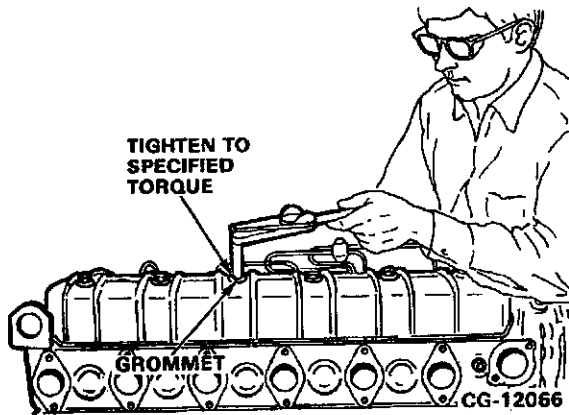

Figure 4.74. Install Valve Cover
10. Install a new gasket onto the valve cover and align the cover and gasket onto the cylinder head. Tighten the valve cover mounting bolts and rubber sealing grommets to the specified torque. See "SPECIAL TORQUES". Refer to Figure 4.74.